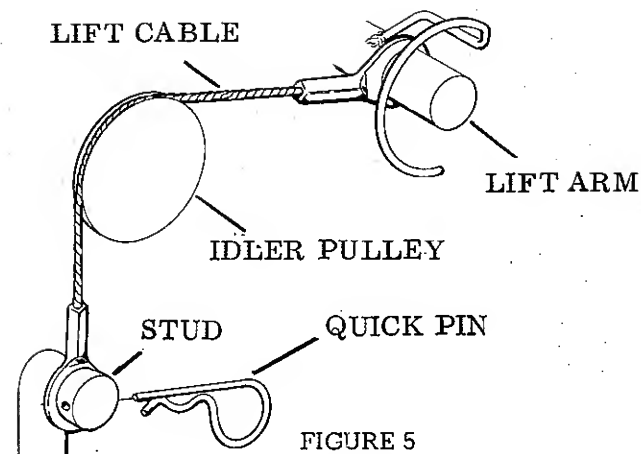

FIGURE 5
7. (See figure 5) If the mower is to be used with the revitalizer, remove the lift chain or cable from the tractor lift arm when operating. This is especially beneficial in reducing lifting effort on tractors not equipped with power lift since the revitalizer should be raised when turning to prevent excess lawn damage. It is not advisable to raise the mower when turning if the mower is engaged since operating the mower in the raised position will reduce the life of the mower drive belt.